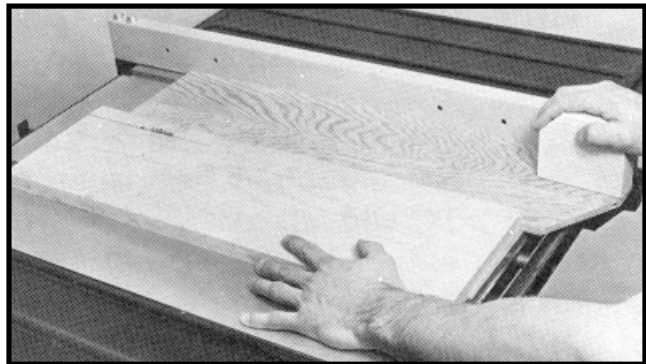
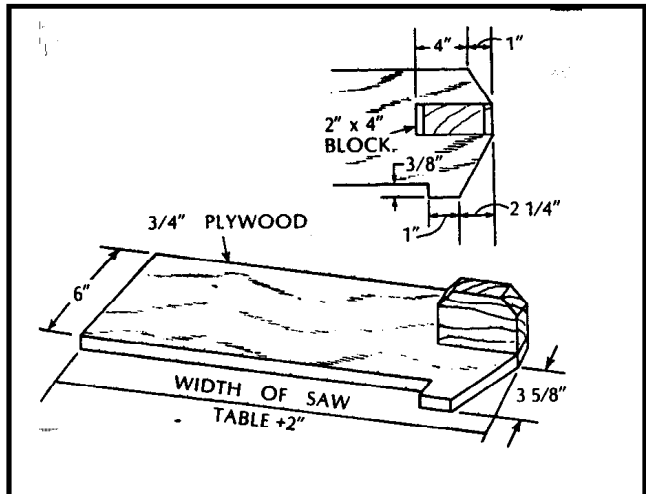

Fig. 48
Fig. 49
3. Ripping narrow pieces can be dangerous if not done carefully. Narrow pieces usually cannot be cut with the guard in position. If the workpiece is short enough, use a pushboard. When ripping material under 2 inches in width, a flat pushboard is a valuable accessory since ordinary type sticks may interfere with the blade guard. When using a pushboard, the width of the pushboard must be added to the width of the rip fence position setting. A flat pushboard can be constructed as shown in Fig. 49 and should be used as shown in Fig. 48